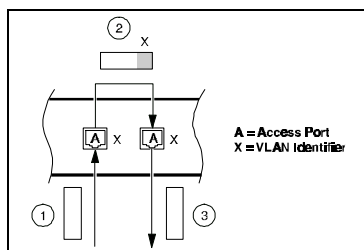
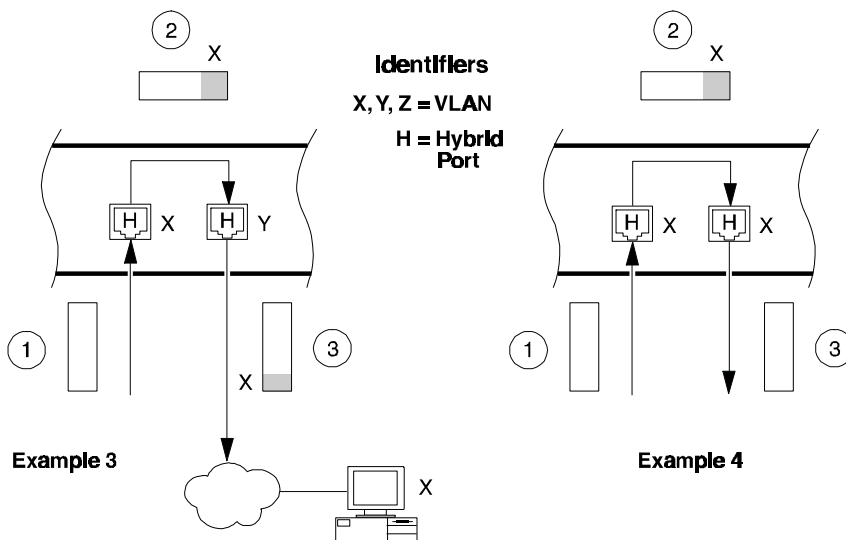

Figure C-2 VLAN Access Ports
Figure C-3B VLAN Hybrid Ports (Examples 3 and 4)
In the following example (Figure C-2), both ports are designated as access ports. The ports are both configured to be on VLAN X. The untagged frame (1) comes in through the left port and gets tagged with a VLAN X tag (2), based on the incoming port. As the frame comes out through the right side port, the tag is stripped (3) since the outgoing port is an access port as well and only accepts untagged frames. The incoming and outgoing frames can only propagate in this example because they are on the same VLAN.
In example 3 in Figure C-3B, an untagged frame arrives at the left side port (1). The frame is tagged with a VLAN X tag (2), and comes out Port Y with a VLAN X tag (3). The ultimate destination of the frame may be on the outgoing port's segment or on another segment.
Example 4 in Figure C-3B, is similar to Example 3 except that both ports (incoming and outgoing) are on VLAN X. The untagged frame arrives at incoming port X (1), gets tagged with a VLAN X tag (2), and comes out VLAN X (3) with the tag stripped off. The packet thus comes in and out of the switch port untagged, the same as the access port type case in Figure C-2.